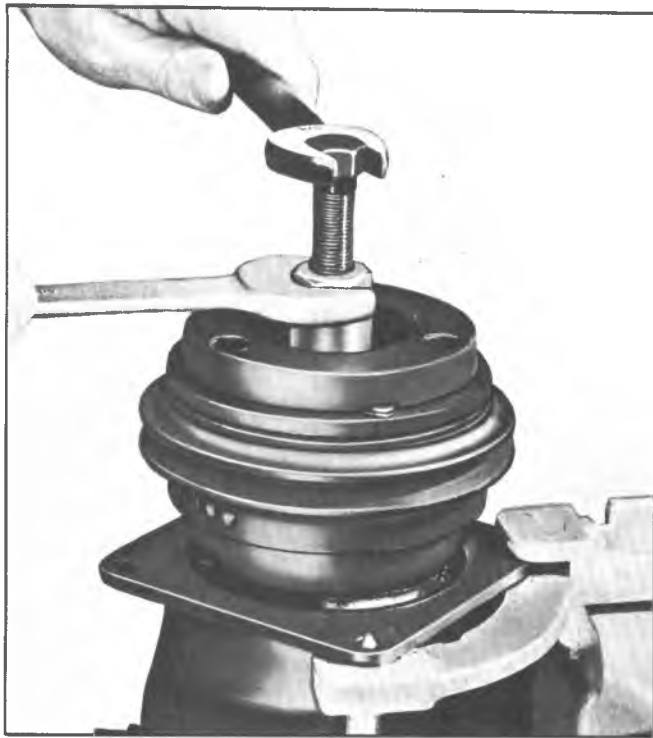

Fig. 5--Installing Hub and Drive Plate Assembly
3. Using Tool J-9480 and Washer J-9480-2 (fig. 5), install the hub and drive plate assembly. Pull the assembly onto the shaft until there is approximately 3/32" space between the frictional surfaces of the drive plate and pulley. (A ZERO thrust race is approximately 3/32" thick and may be used to roughly gauge this operation.)